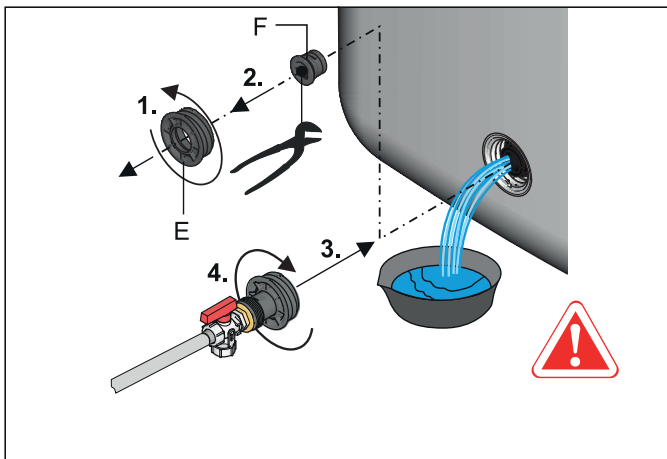

Fig. 5-4 Screwing the KFE filling connection into the filling and draining connection
- 5 Unscrew the threaded piece on the filling and draining connection (fig. 5-4, item E), remove the sealing plug (fig. 5-4, item F) and **immediately screw in** the pre-installed threaded insert with **KFE filling connection** into the filling and draining connection (fig. 5-4) again.